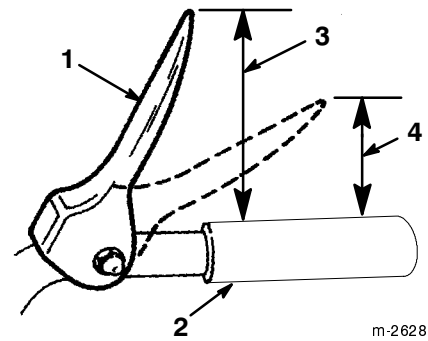

Figure 10
3. Adjust the flange locknut up or down on the traction control rod until the distance between the top of the handgrip and the bottom of the traction control lever (Fig. 10) is approximately five inches (12.7 cm).
The adjustment is correct when the wheels stop rolling backward and the distance between the top of the handgrip and the bottom of the traction control lever (Fig. 10) is three to four inches (7.6 to 10.2 cm)